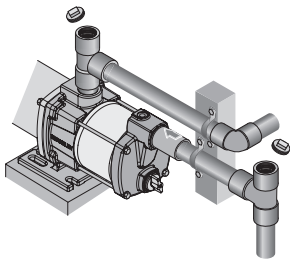

Figure 13 – Remove Priming Plugs
1. Remove priming plug (Figure 13).